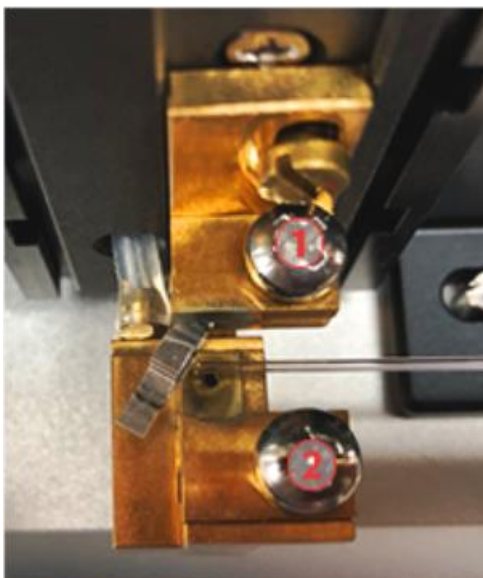

Figure 6-2
3) Unscrew the two screws on the jaw, as shown in Figure 6-2, and remove the old heating filament.